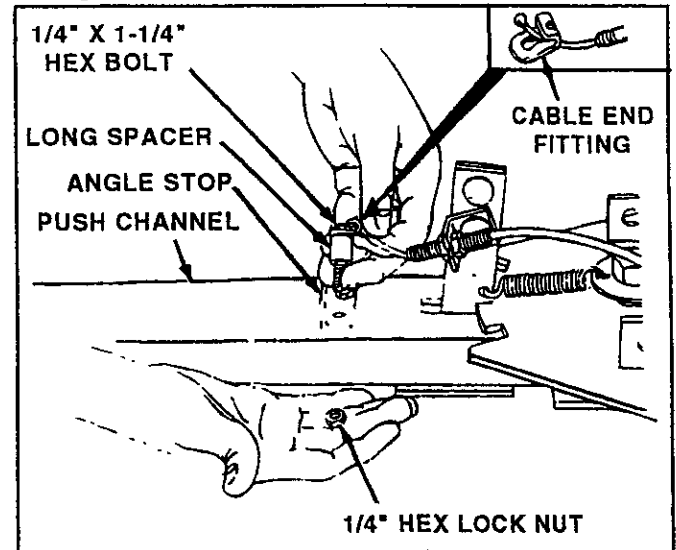

FIGURE 8
- Assemble 1/4" x 1-1/4" hex bolt down through cable end fitting, through long spacer, angle stop, (right hand hole) and through channel. See figure 8. Secure with 1/4" hex lock nut and tighten the other 1/4" hex lock nut, which was left loose in step 4. **NOTE: Keep cable and fitting in alignment with cable mount bracket when tightening nuts.**